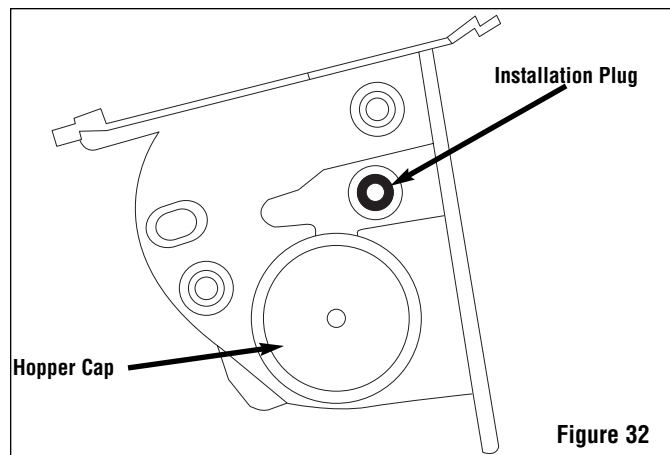

Figure 32
3. Reattach the Contact Side End Plate. See figure 32 and 33. For detailed instructions see, SSS™ #310 "How to use your...HP2100 End Plate Kit (HP21EPLATEKIT)".